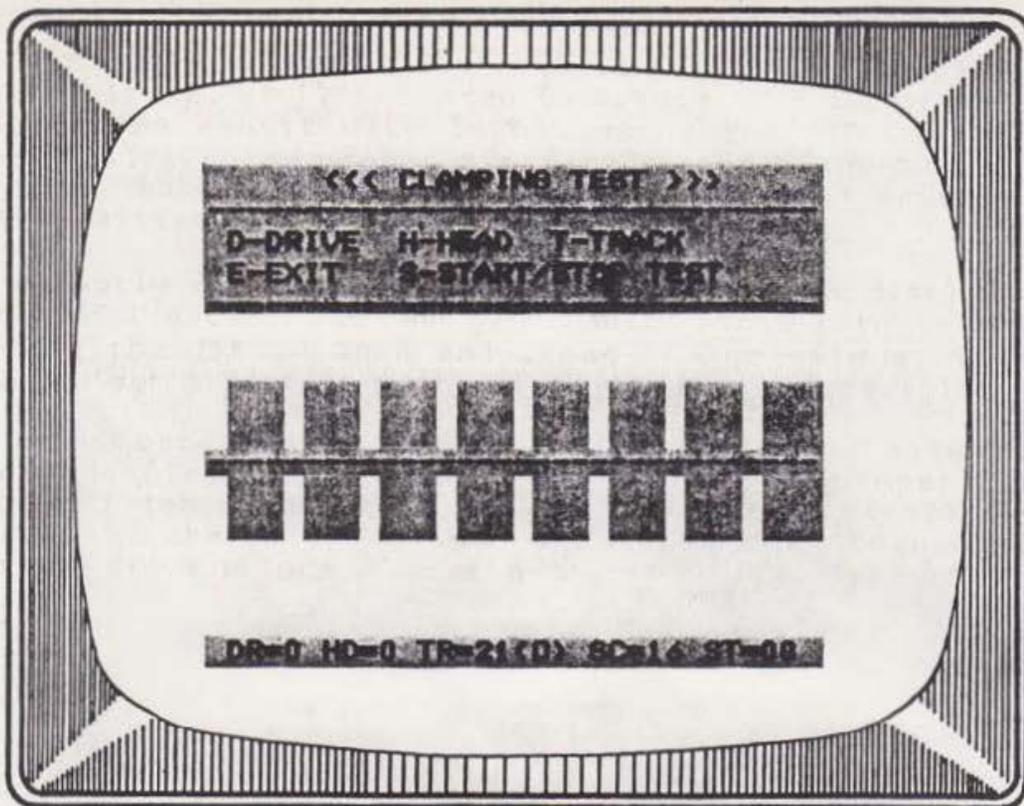
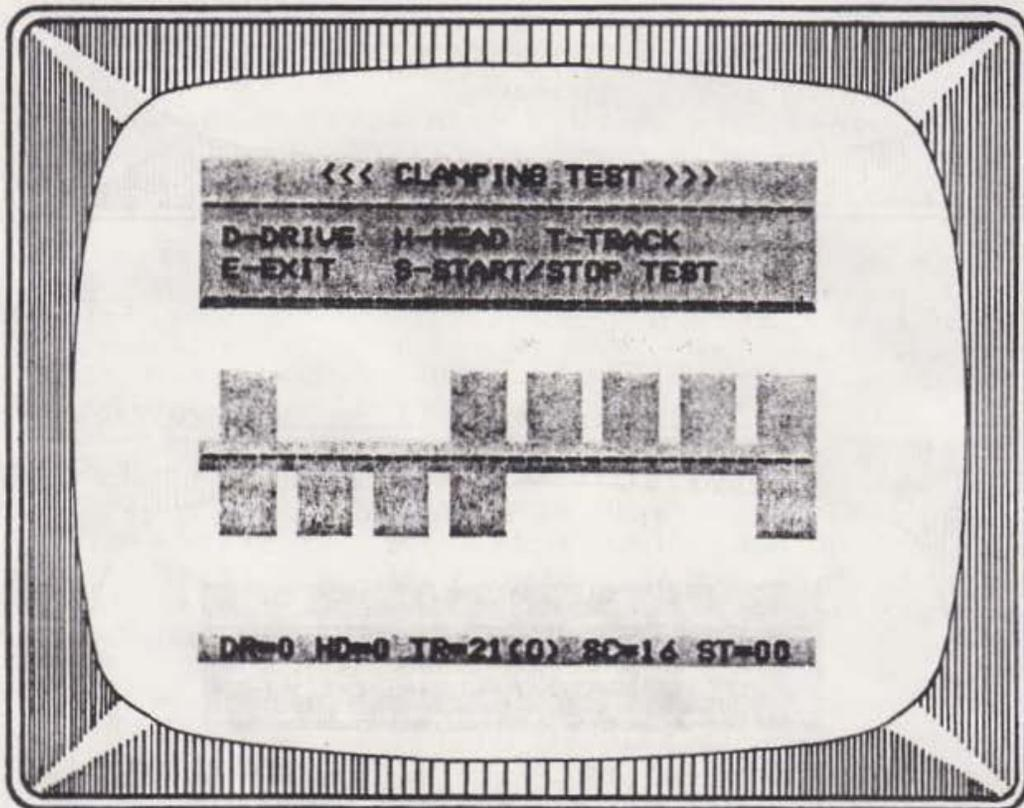
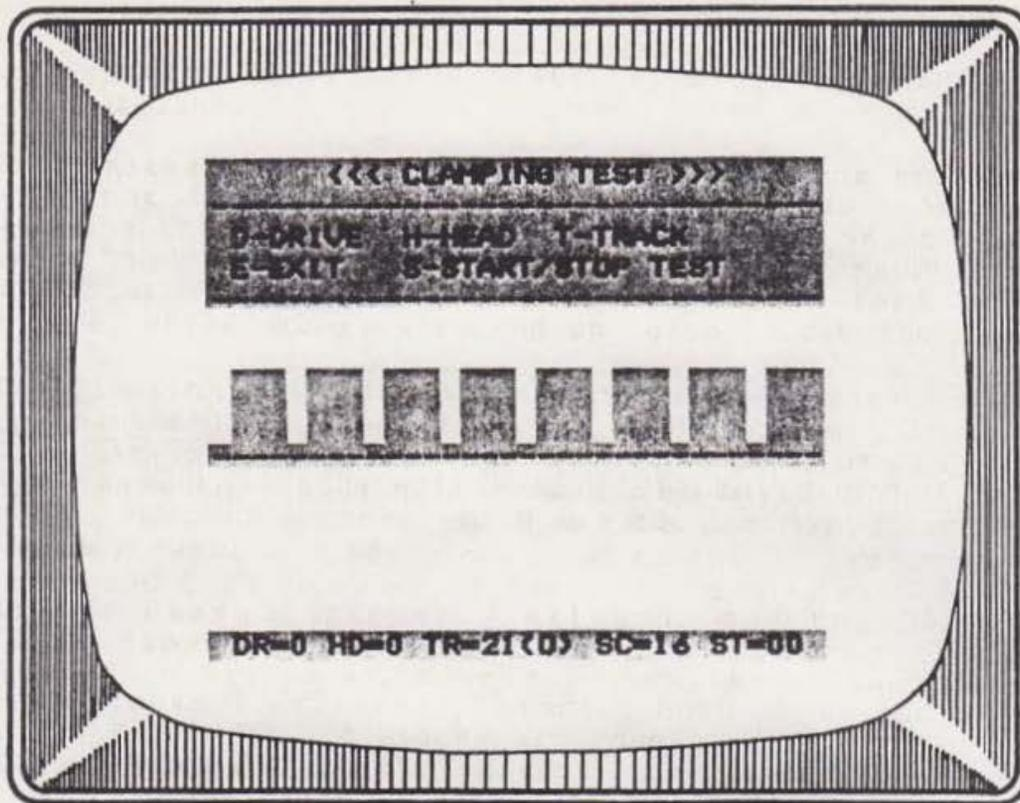

Figure 4: Proper Clamping
Figure 5: Improper Clamping
Figure 6: Head Alignment Error
Insert the DDD Disk into the test drive and press the "S" Key to start the test. After a short delay, the display should show a group of square blocks attached to the center bar. If the DDD disk is properly clamped, there will be 8 blocks above the bar and 8 blocks under the bar (see Figure 4).
A properly clamped diskette will result in a display with no missing blocks, as illustrated in Figure 4. Check the clamping at all three sensitivity levels using the "T" Command. Few drives will display proper clamping at the highest sensitivity level (I), but most drives should exhibit good results at the least sensitive level (0).
A poorly clamped diskette will result in a display similar to that of Figure 5. If you get results similar to this, try re-clamping the disk. Open and close the drive door repeatedly until you get a pattern with as many blocks as possible.
As illustrated in Figure 6, improper head alignment may cause a display which appears to indicate improper clamping. This condition usually results in the absence of all blocks on one side of the bar. In such a case, it may be necessary to align the drive before you can get good results from the Clamping Test.
If the head is properly aligned, and the DDD Disk is perfectly clamped, there will be no missing blocks (as illustrated in Figure 4). Improper clamping is indicated when there are blocks consistently missing both above and below the bar (as in Figure 5). If blocks are consistently missing only on one side of the bar (as in Figure 6), then an alignment problem is more likely indicated.